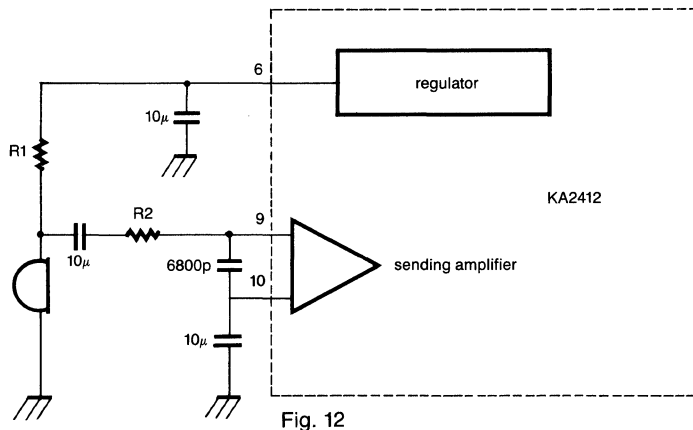
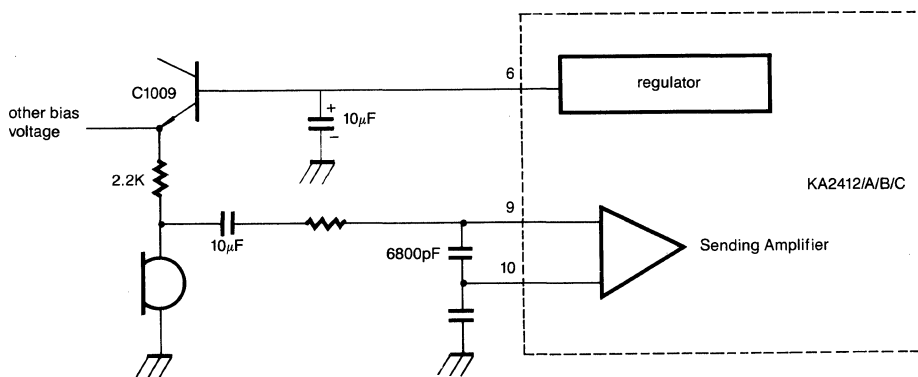

Fig. 12
Fig. 13
In sending mode, it is possible to adjust the input stage (pin 9 and pin 10) can be matched to different transducers simply by varying external components. (See Fig. 12 and Fig. 13)
- 1) When a microphone of carbon type is used, it is necessary to provide a perfect bias current because the resistance of carbon microphone is varied by the sound pressure. Therefore in order to convert the variation of resistance into the voltage signal, A perfect bias current have to be supplied as described in Fig. 12
- 2) When a microphone of condenser type is used; A perfect bias voltage have to be supplied. In this case, it can be designed as described in Fig. 12. But, in the case of other bias voltage needed, it is necessary to use a Buffer TR as described in Fig. 13.